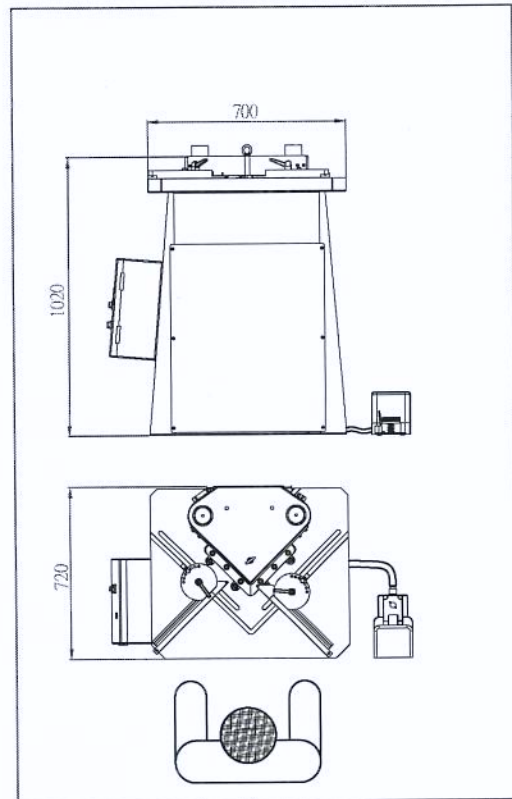

Figure 1
Refer to Figure 1
- ♦ Consider existing and anticipated needs - minimum working clearances are specified in Fig. 1